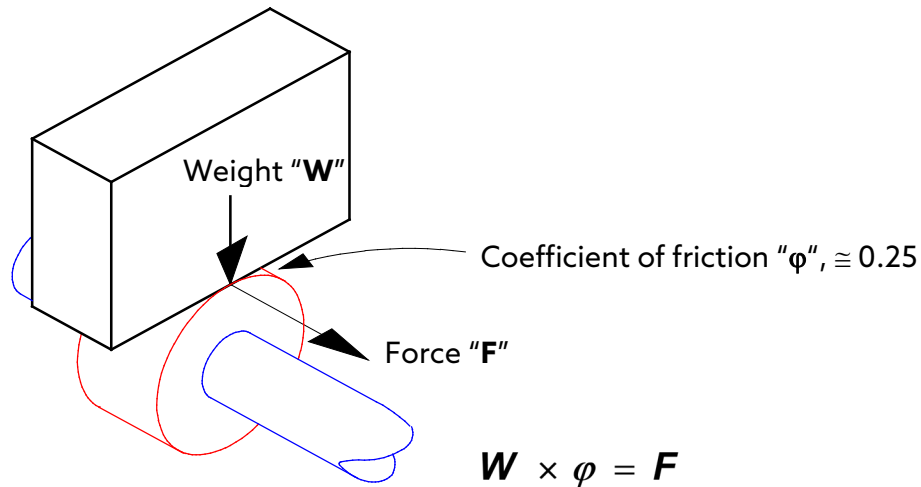

Figure 3
**Figure 3** below shows what happens when one tries to slide a package sideways on Slip-Torque®. The resistance to sliding now takes place between the bottom of the package and the surface of the rollers.